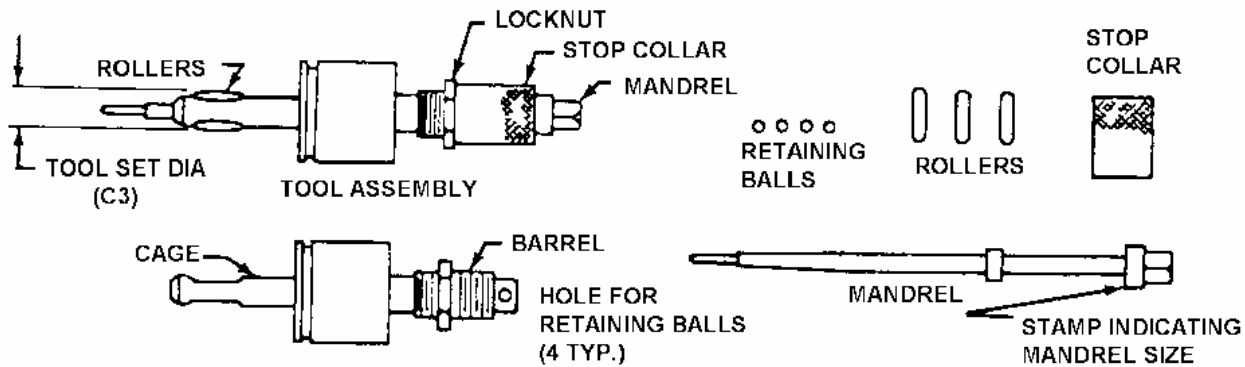

Figure 10. Dynatube Expander Components
18. Assembling Tube Expander. When assembling tube expander (Figure 10), use new components where applicable and proceed as follows:
19. Replacing Tube Expander Cage. Replace cage if peen along sides of roller cavity breaks down, allowing rollers to fall out of tube expander. To disassemble cage (Figure 10 and 12), proceed as follows:
20. Assembling Tube Expander Cage. When assembling tube expander cage (Figures 10 and 12), replace cage as follows: